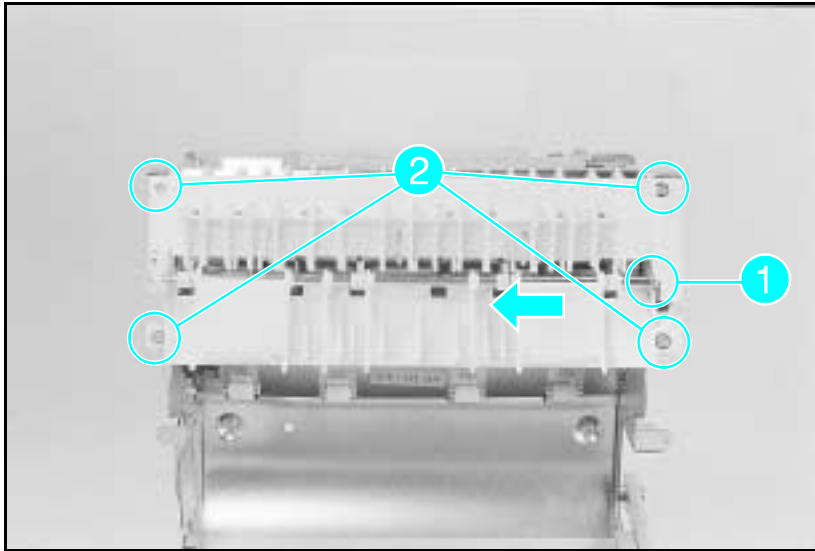

Figure A-11 **Switchback Paper Guide**
- 1** Remove the (1) E-clip from the shaft on the stepper motor side shown in Figure A-11, callout 1.
- 1 Remove the (4) screws shown in Figure A-11, callout 2.